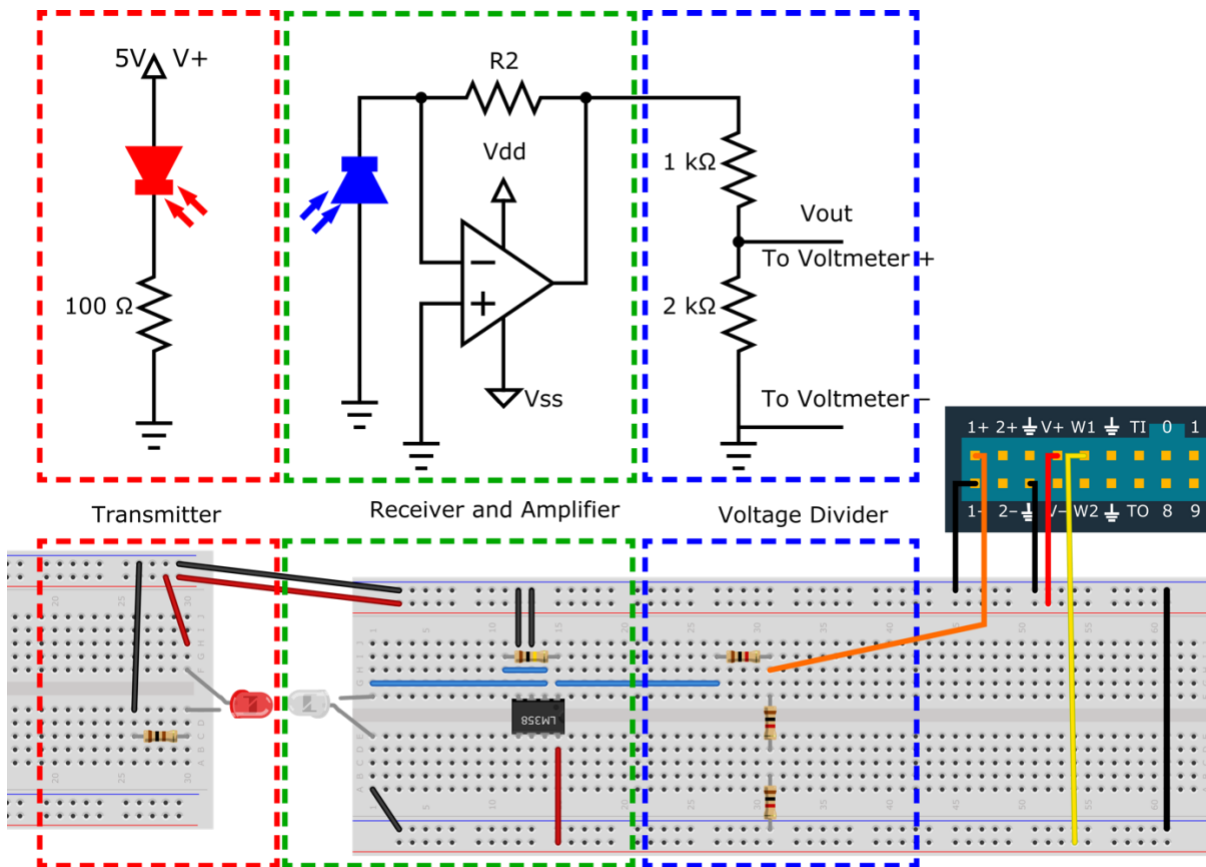

Fig. 4. Schematic for optical communication system and amplifier (Top) and breadboard implementation (Bottom)
1. Build the transmitter/receiver circuit as shown in Fig. 4. Begin by using a 100 k Ω resistor for the R_2 in the receiver circuit, and an op-amp. You will be provided with two op-amps and either can work as the pin layout for each is the same. The op-amps are the LM358 and the LMC6482. Keep in mind the following: